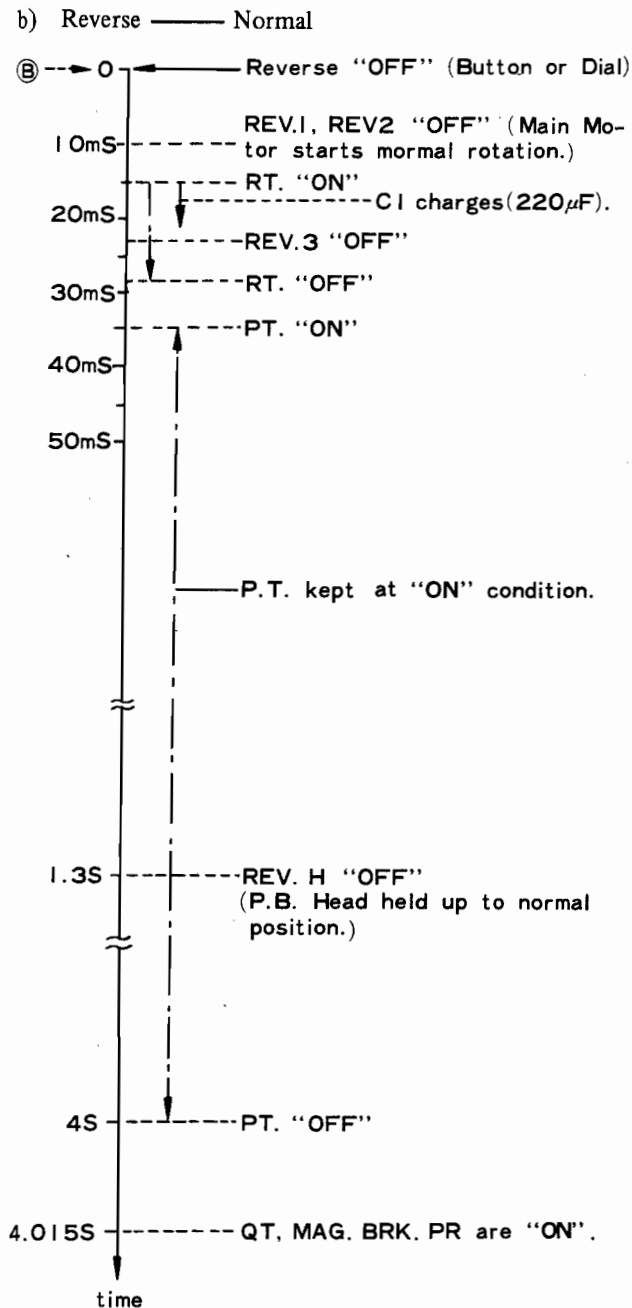

Fig. 9
Reverse Circuit current is cut off at point (B), but REV1 and REV2 remain engaged for approximately 10 milliseconds. As REV1 is disengaged, the Main Motor starts rotating in the Normal direction. When the current in the Reverse Circuit is cut off, the 33  $\mu$ F Condenser, which in series connects to the RT Relay and charged during Reverse Play, is discharged through the RT Relay Coil and the 650  $\Omega$  Resistor. The Dischargee Time is about 28 milliseconds. Thus, the RT Relay remains engaged approximately 13 milliseconds. (See Figure 9) RT1 normally open contact is closed and Condenser C1 (220  $\mu$ F) is charged in approximately 5 milliseconds.